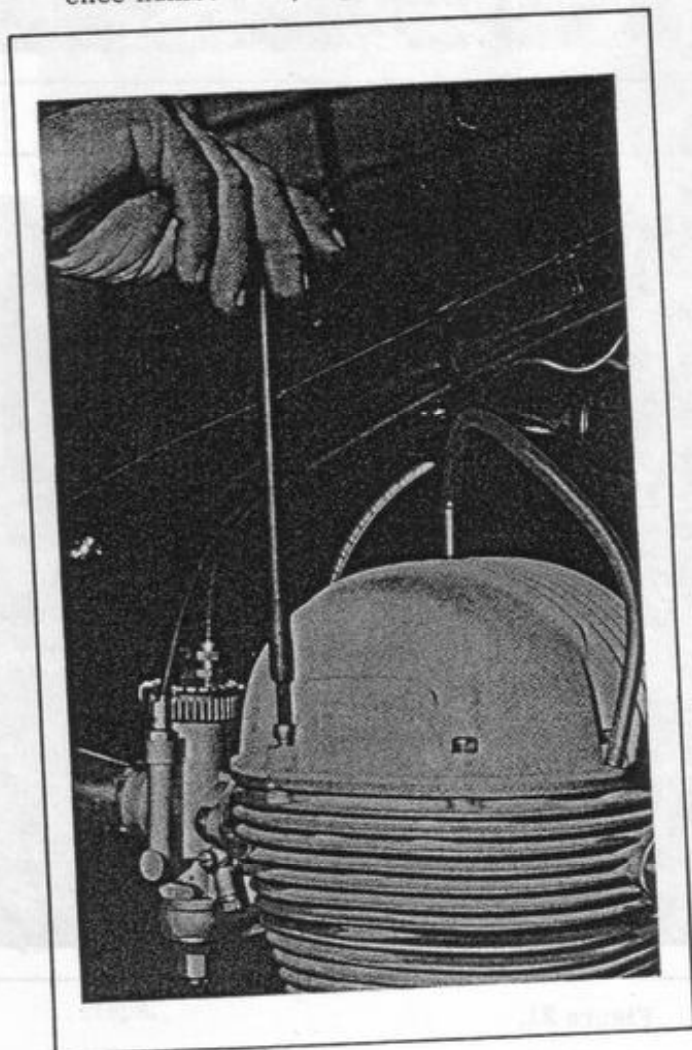

Figure 19.
2. Use tool A to remove the cylinder head cover screws (Figure 19). Remove cover.